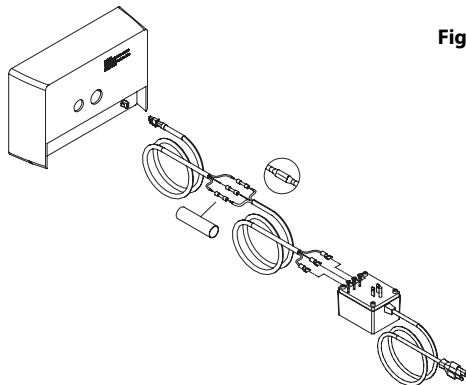

Figure 7
- Connect the wire to the transformer (see figure 7).
- Insert the other end of the wire, with the connector, into the back of the control box (see figure 7).
Helpful Tip: If the wire is too short, use the supplied connectors and shrink tubing to lengthen the wire (see figure 7).